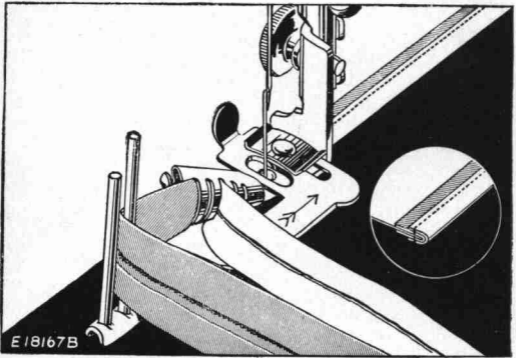

FIG. 48. PIPING AND BINDING IN ONE OPERATION
**Folded bias binding** must be inserted in the slot or slots of corresponding sizes. See **Fig. 48**.
A garment can be piped and bound in one operation, as shown in **Fig. 48.**
Use the upright guide pins to guide the wider of the two widths of binding, as shown in **Fig. 48.**